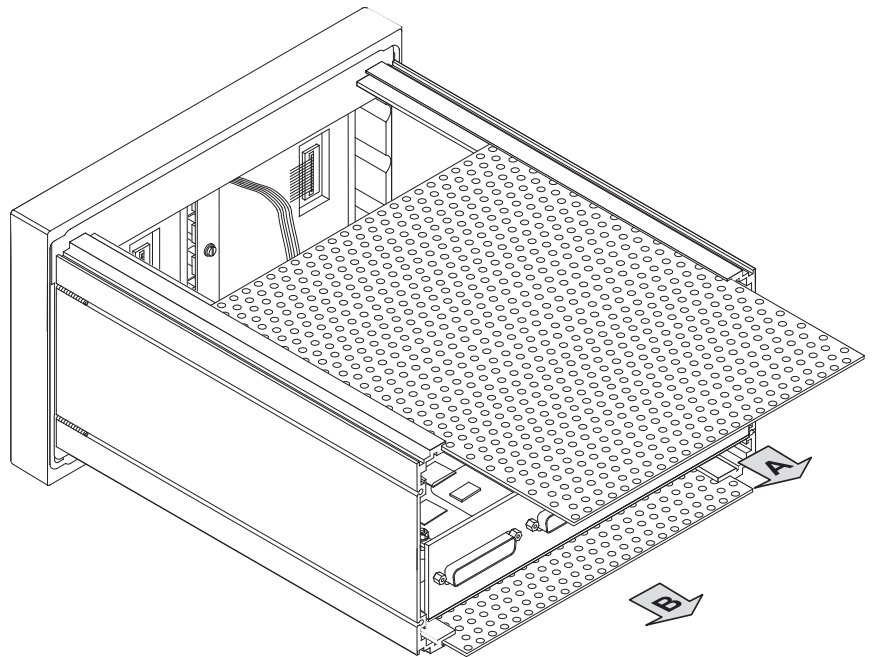

Fig. 8-24: Removing the perforated cover metal plates
5. Carefully remove the ground cables from upper and lower perforated cover metal plates and pull these plates out of the frame (fig. 8-24).